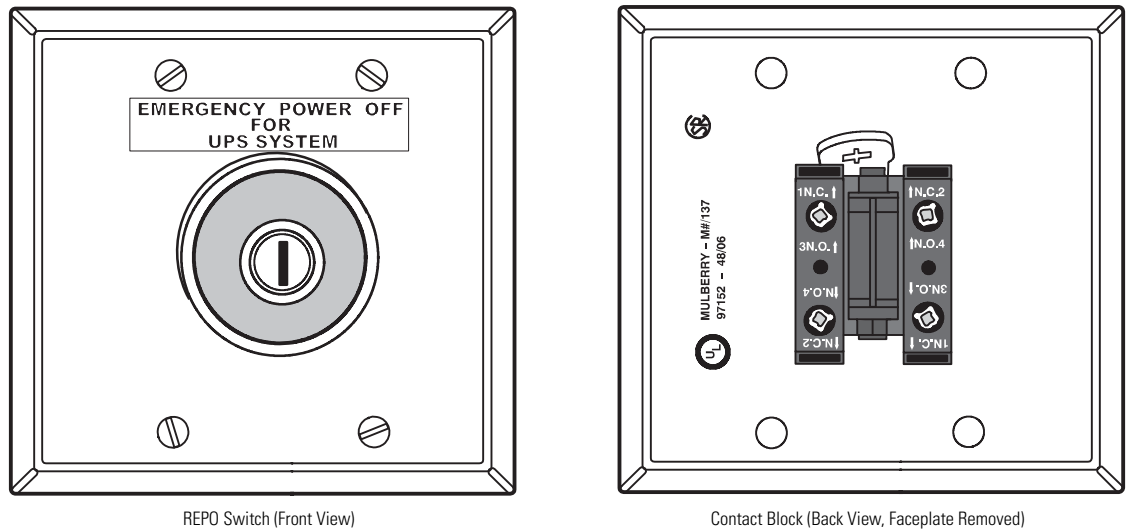

Figure 4-28. REPO Switch
A latching-type Remote Emergency Power-off (REPO) switch can be used in an emergency to shut down the UPS and remove power to the critical load from a location away from where the UPS is installed. Figure 4-28 shows a REPO switch.
17. If required, install wiring from the REPO switch to the trip circuitry of the upstream protective devices. A second contact block is provided on the REPO switch for this function (see Figure 4-28). The REPO switch wiring must be in accordance with NEC Article 725 Class 2 requirements.